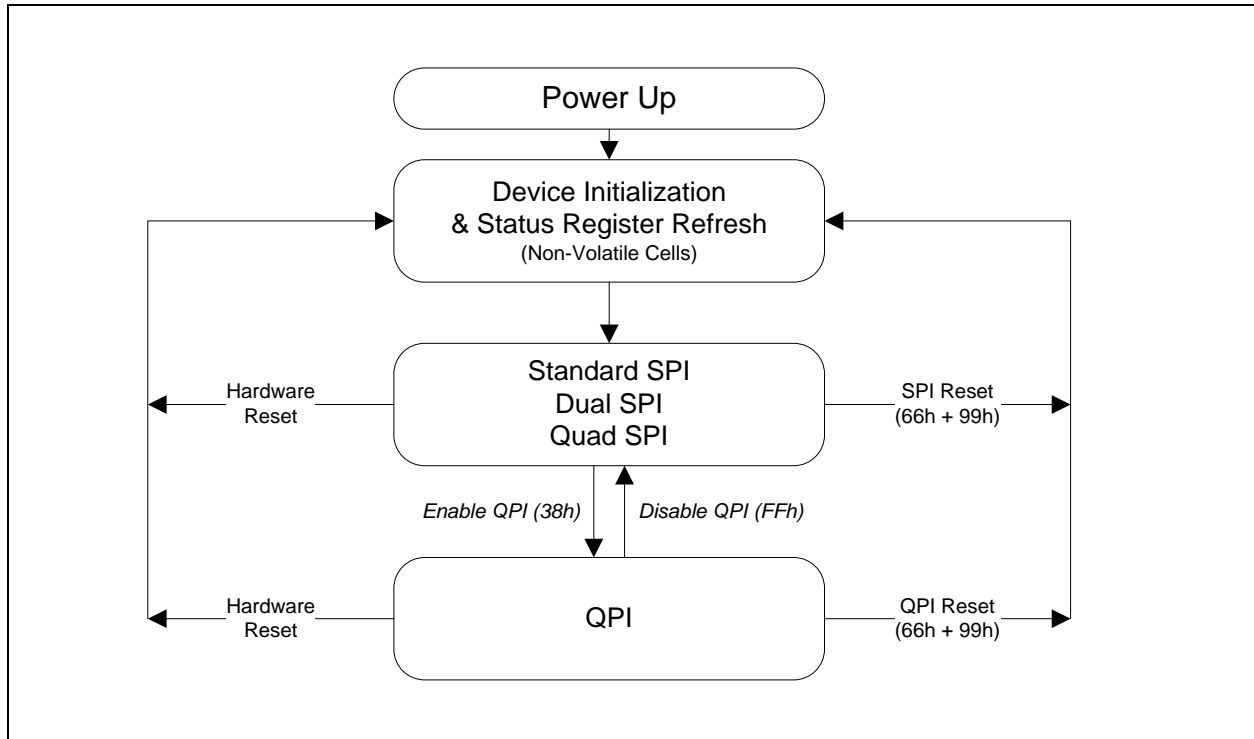

Figure 3. W25Q128FW Serial Flash Memory Operation Diagram
The W25Q128FW supports Quad Peripheral Interface (QPI) operations only when the device is switched from Standard/Dual/Quad SPI mode to QPI mode using the “Enter QPI (38h)” instruction. The typical SPI protocol requires that the byte-long instruction code being shifted into the device only via DI pin in eight serial clocks. The QPI mode utilizes all four IO pins to input the instruction code, thus only two serial clocks are required. This can significantly reduce the SPI instruction overhead and improve system performance in an XIP environment. Standard/Dual/Quad SPI mode and QPI mode are exclusive. Only one mode can be active at any given time. “Enter QPI (38h)” and “Exit QPI (FFh)” instructions are used to switch between these two modes. Upon power-up or after a software reset using “Reset (99h)” instruction, the default state of the device is Standard/Dual/Quad SPI mode. To enable QPI mode, the non-volatile Quad Enable bit (QE) in Status Register-2 is required to be set. When using QPI instructions, the DI and DO pins become bidirectional IO0 and IO1, and the /WP and /HOLD pins become IO2 and IO3 respectively. See Figure 3 for the device operation modes.